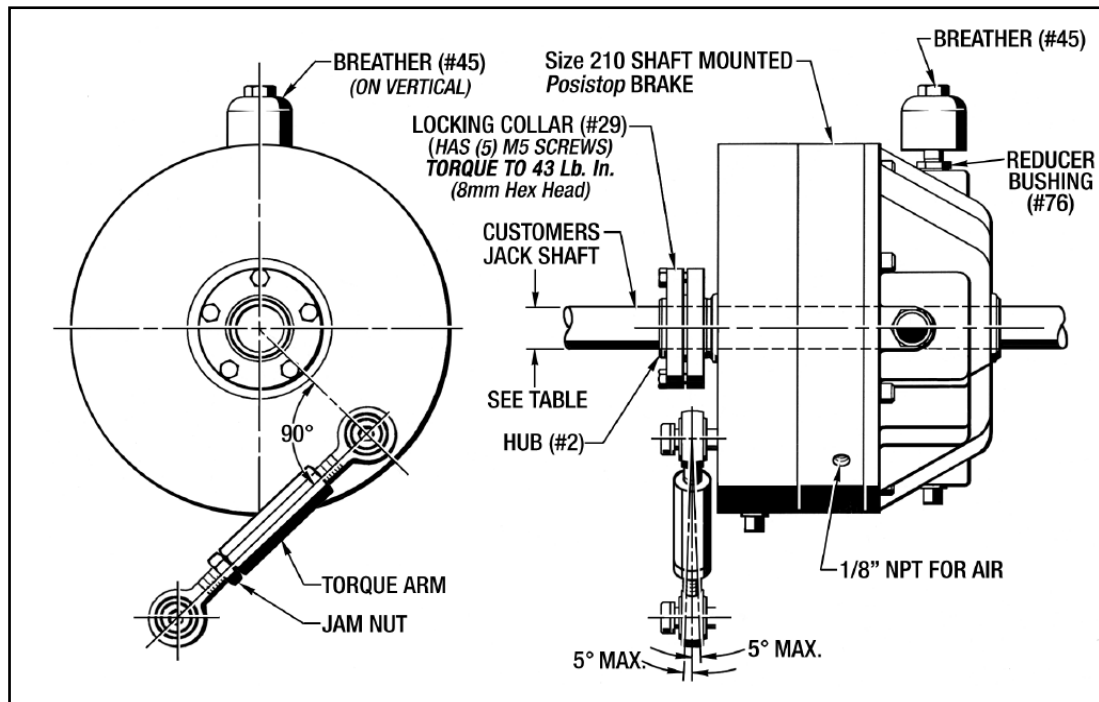

Figure 3.1 - Size 210 Shaft Mounted Brake Installation
(See Figure 3.1)
7. Attach the Torque Arm as shown in Figure 3.1. Adjust the turnbuckle so the Air Breather (#45) is on the vertical center line.
Please Note: The maximum allowable angular misalignment is $\pm 5^\circ$ as shown in Figure 3.1.